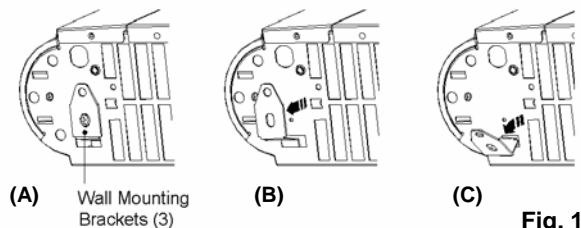

Fig. 1
Following the sequence in Fig. 1 – identify and remove the fixing screw securing the brackets located beside Mains Cable as shown in (A), then pull out brackets and rotate them to disengage them from the slot (B).